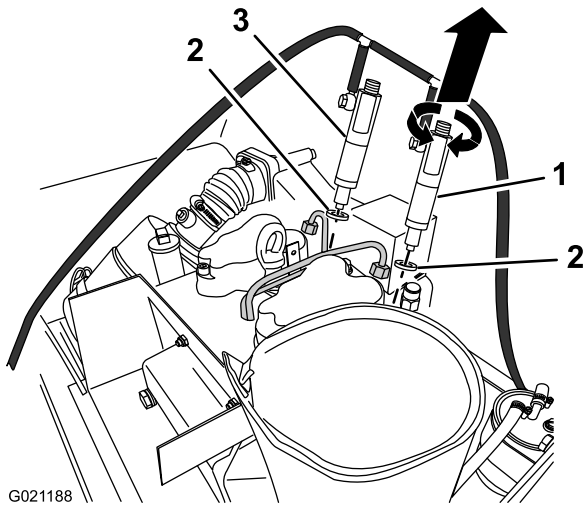

Figure 51
- Using a twisting and pulling motion, remove the **rear-fuel injector** from the cylinder head (Figure 51).
- Using a twisting and pulling motion, remove the **forward-fuel injector** from the cylinder head (Figure 51).